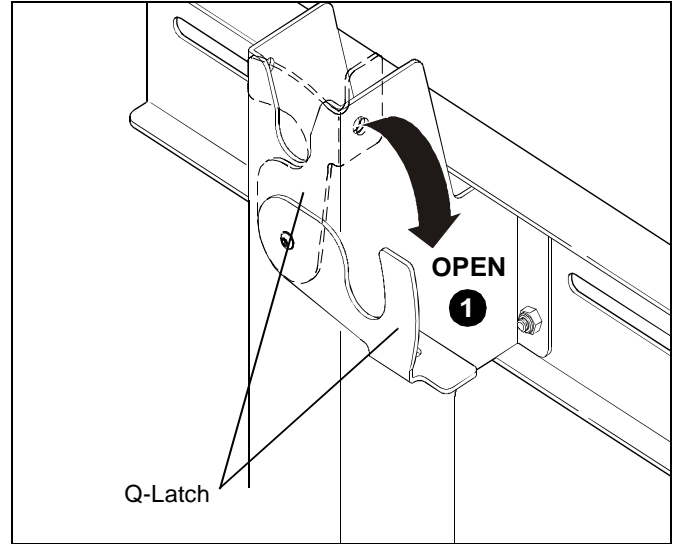

Figure 4
- Move Q-Latches on mount to the OPEN position. (See Figure 4)